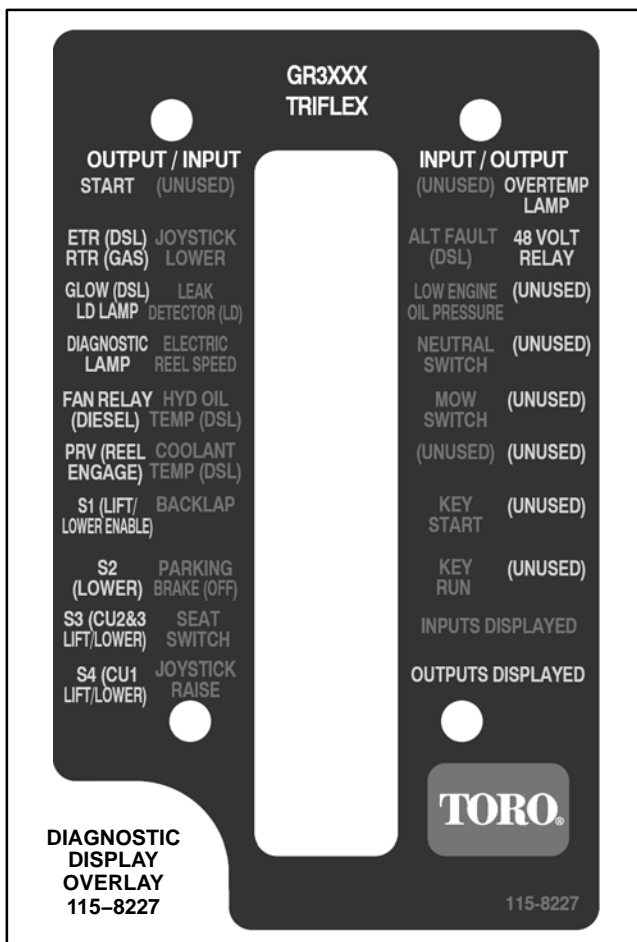

Figure 15
3. Connect the Diagnostic Display connector to the harness connector. Make sure correct overlay decal is positioned on the Diagnostic Display (Fig. 15).